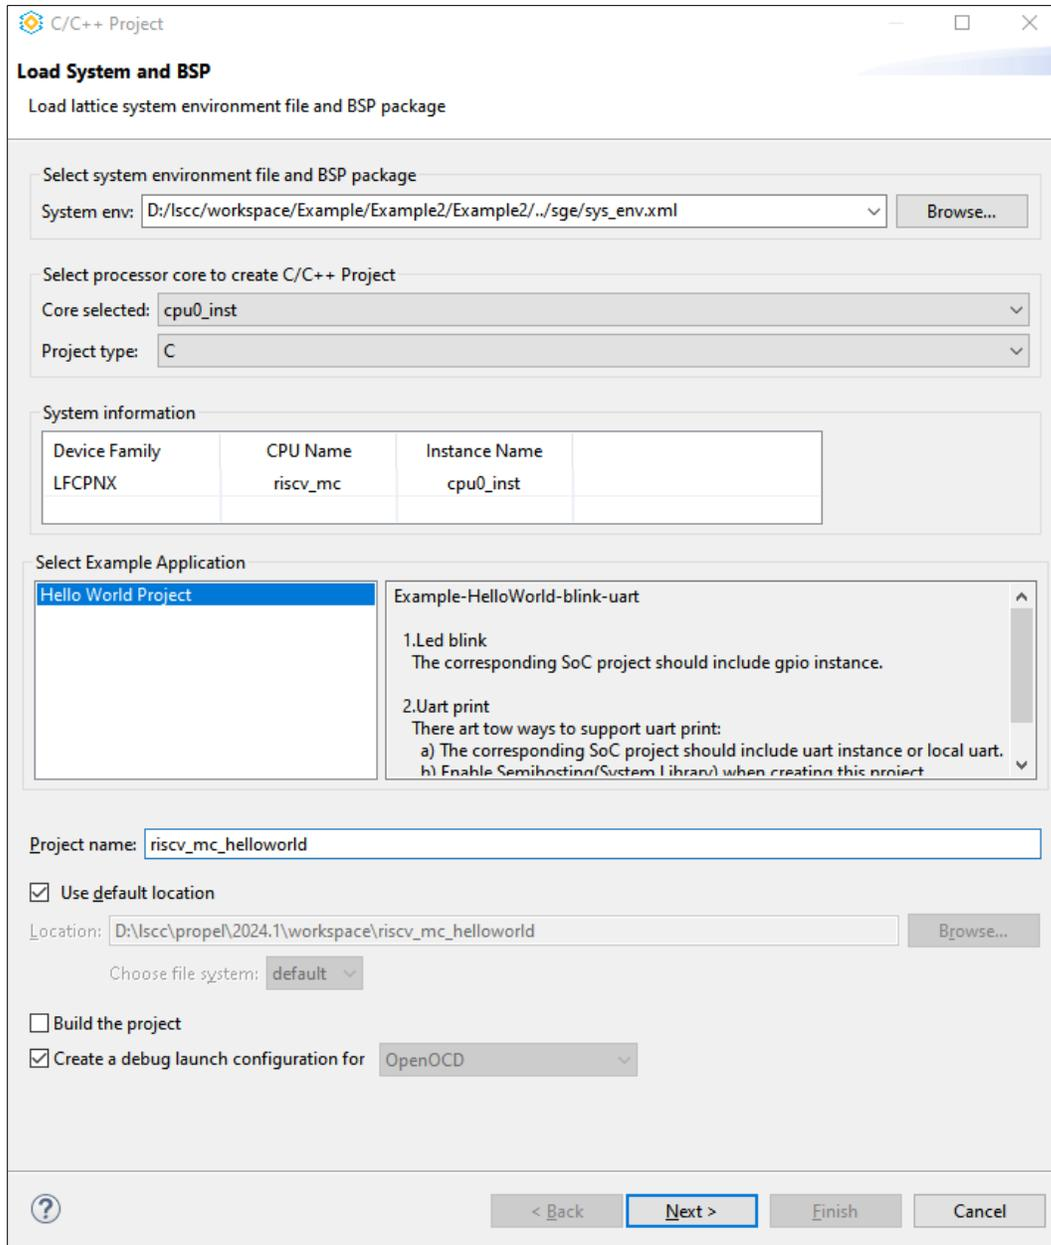

Figure 2.110. Propel SDK GUI and C/C++ Project Wizard
2. Click **Launch**. Propel SDK GUI opens. This C Project wizard is for loading the system and the board support package (BSP) to create a C/C++ project (Figure 2.110).